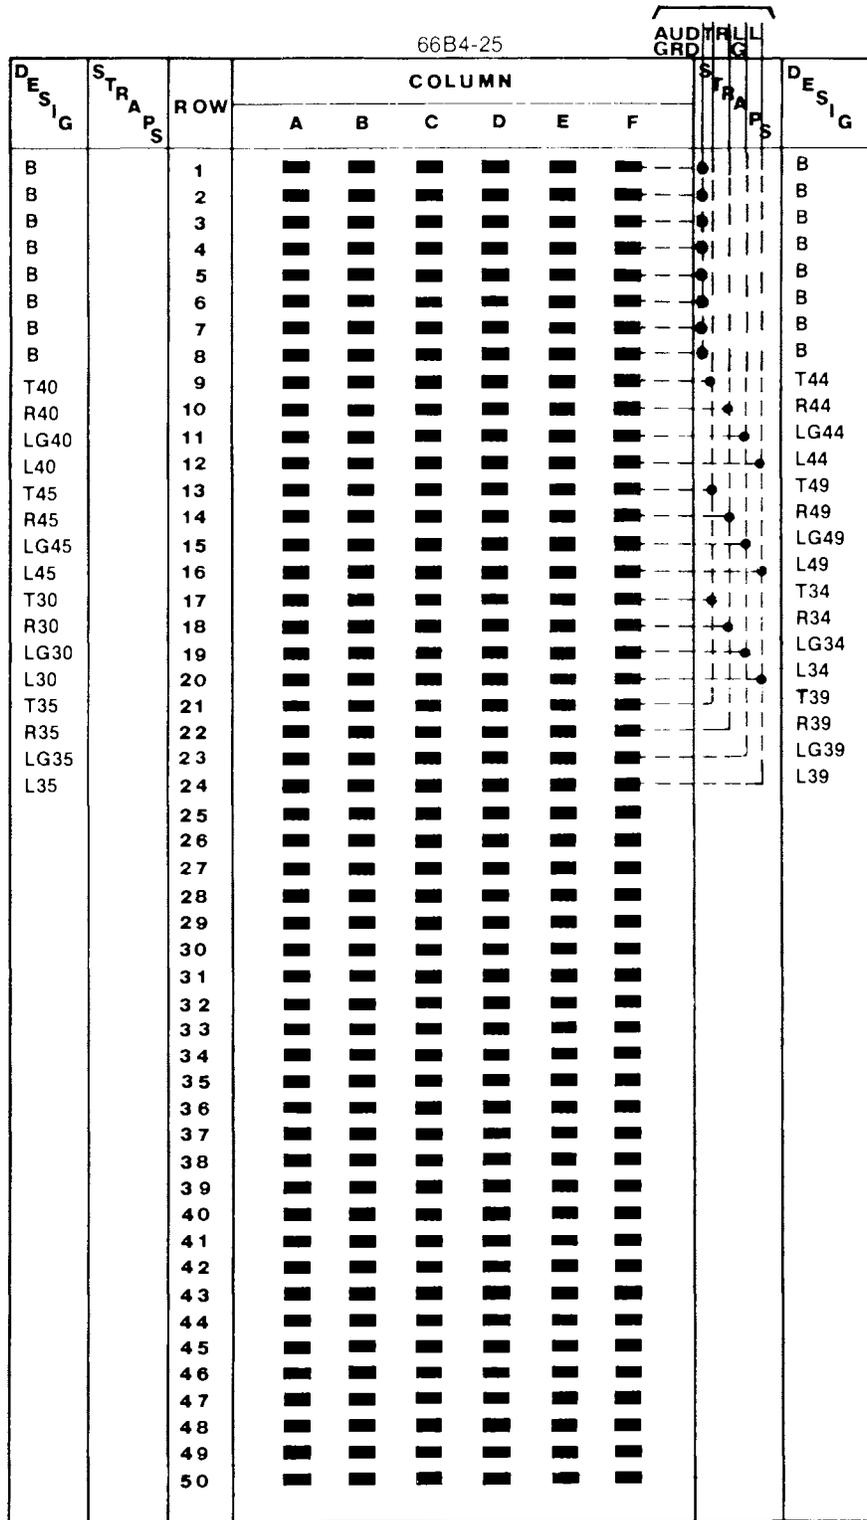

Fig. 4 — Connections for 37 Stations.
(FIG. 4)
2.04 An optional seven-conductor power cable assembly, the CA7, is available for convenient plug-in connection to a W.E. Co. 79B1, 90B1 or a similar modular power supply. When the CA7 power cable assembly is used, power connections are made to the screw terminals on the underside of the KL-30 panel as shown in Figures 4 and 5. When the CA7 is not used, power connections can be made either to terminals on the KL-30 connecting block or to the screw terminals on the KL-30 underside.